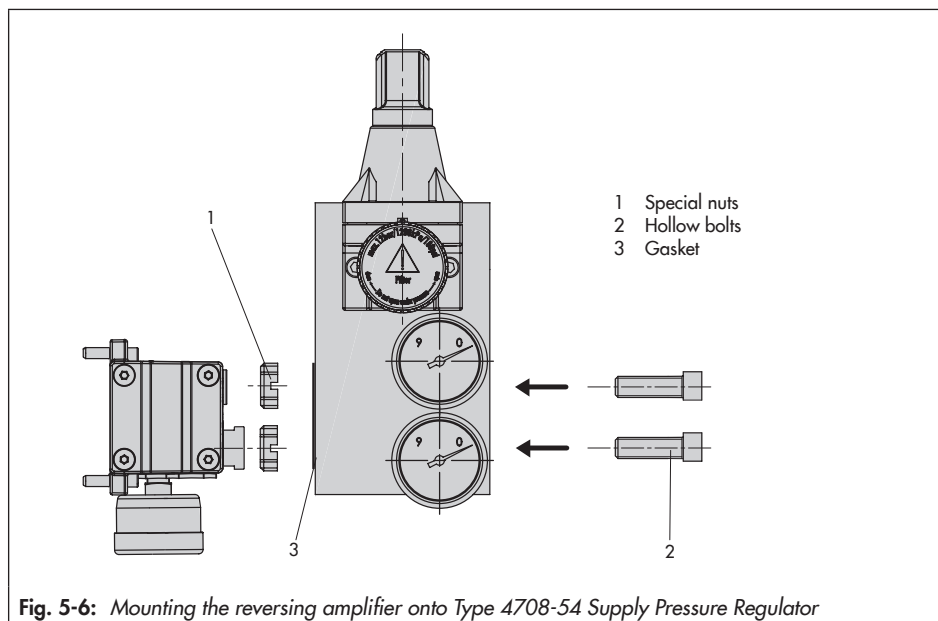

Fig. 5-6: Mounting the reversing amplifier onto Type 4708-54 Supply Pressure Regulator
- Required accessories: Bolts with special nuts (1400-7806) (1 in Fig. 5-6)
1. Screw special nuts (1) into the holes in the reversing amplifier.
2. Insert gasket (3) into the recess of the supply pressure regulator and slide the special hollow bolts (2) into the holes for Output and Supply.
3. Position reversing amplifier and fasten using the hollow bolts (2).